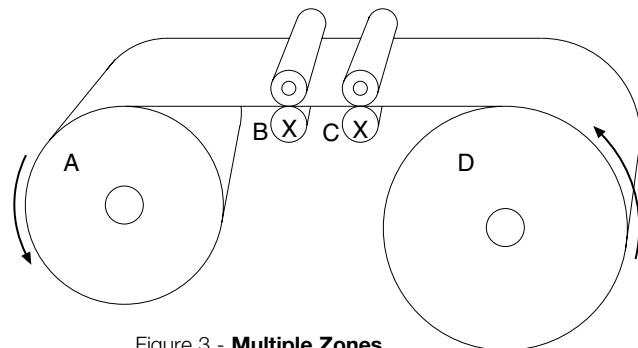

Figure 3 - **Multiple Zones**
**III.** More complex machines will usually have multiple intermediate zones in addition to the unwind and rewind zones (see Fig. 3). One of the intermediate zone drives will typically establish line speed, and the control of drive rolls for the other zones will relate to this drive. In some instances, a simple master/follower relationship with a speed differential ratio will provide the draw tension necessary in that zone (i.e. Fig. 3 – B & C). In other cases, this may be accomplished with